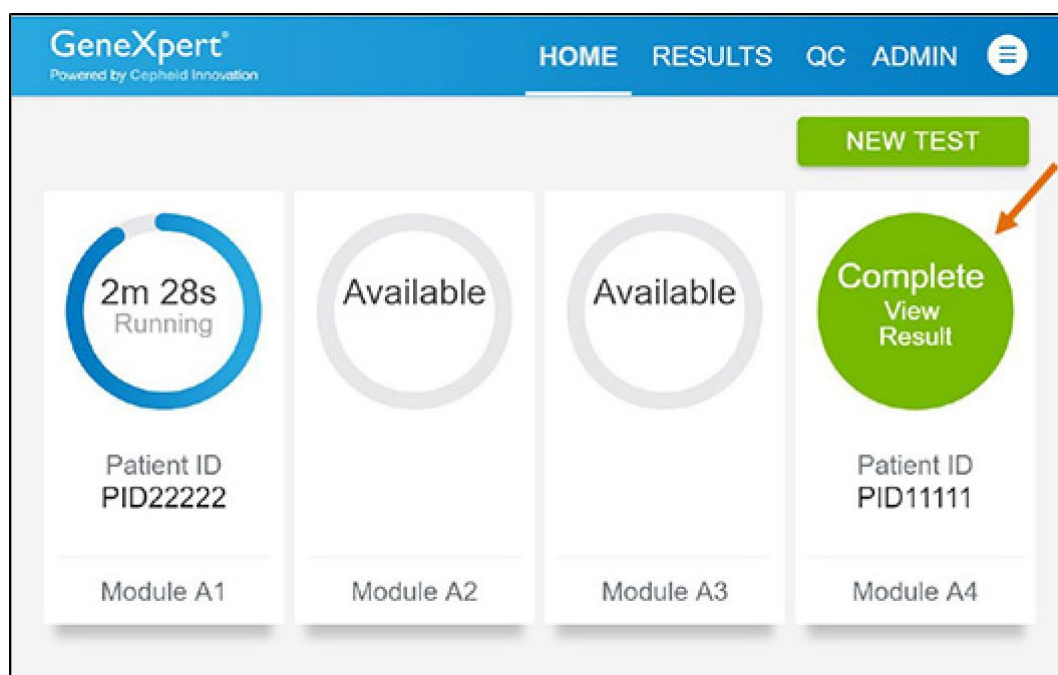

Figure 31. Home Screen with One of Two Tests Completed
5. After a test has completed, the module icon text changes to Complete (see Figure 31). Touch **Complete View Results** to view test results.
1. Touch the **RESULTS** button located on the panel at the top of the screen (see Figure 31). The Results screen appears (see Figure 32). Test results are, by default, in order of the date and time that the test was run. Navigate through the test result pages by touching the numbered buttons or arrows at the bottom of the screen.